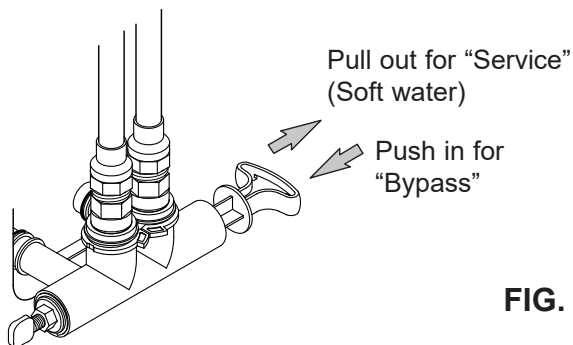
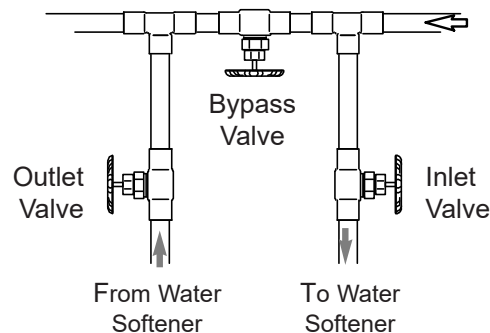

FIG. 7
FIG. 8
Always install either a single bypass valve (provided), as shown in Figure 7, or, if desired, parts for a 3 valve bypass system (not included) can be purchased and assembled, as shown in Figure 8. Bypass valves allow you to turn off water to the softener for maintenance if needed, but still have water in house pipes.
**CAUTION:** The house cold water pipe (metal only) is often used as a ground for the house electrical system. The 3-valve bypass type of installation, shown in Figure 8, will maintain ground continuity. If you use a plastic bypass valve at the unit, continuity is broken. To restore the ground, do the following:
2. Place the bypass valve (single or 3 valve) into the "bypass" position. See Figures 7 & 8 on Page 8.